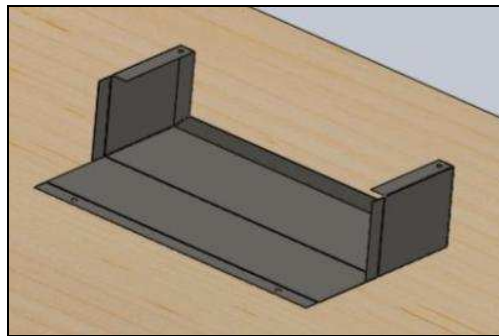

Figure 10: Bend #7- Finished work piece after completing Bends #1 through #7.
- D. Bend #7-** Repeat the procedure given in the previous step along with the provided cautions and safety considerations. The work piece should look like Figure 10 when Bend #7 is completed.